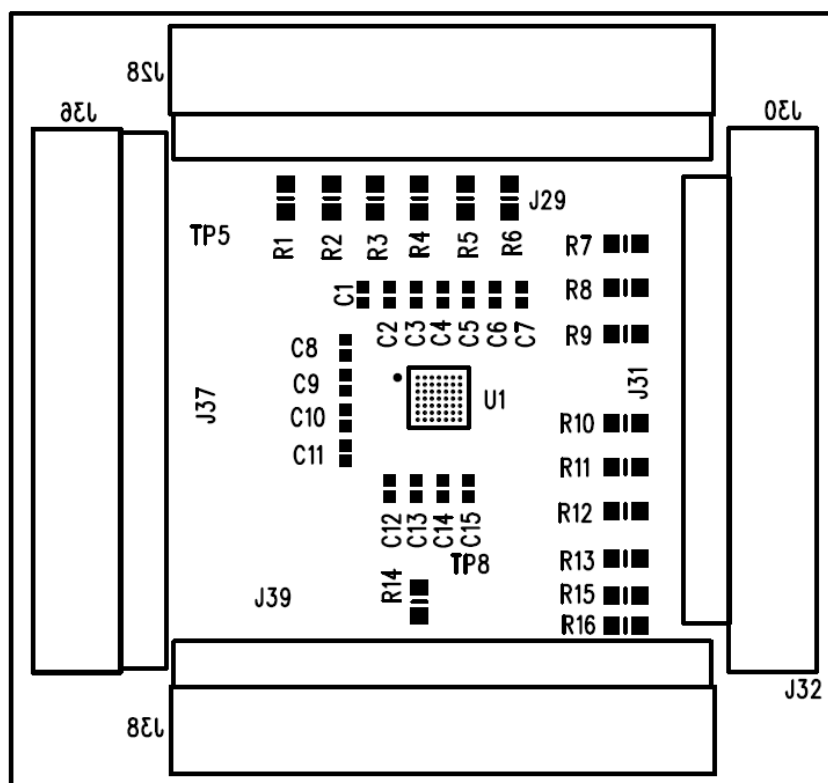

Figure 3 DA7210 44-179-93-04-C Miniboard
1. A miniboard containing the DA7210 in a CSP 49-pin package connected to evaluation board 44-179-93-02-C via jumpers J28, J30, J36 and J38, Figure 3. This board can also be used standalone or in conjunction with a customer development system.